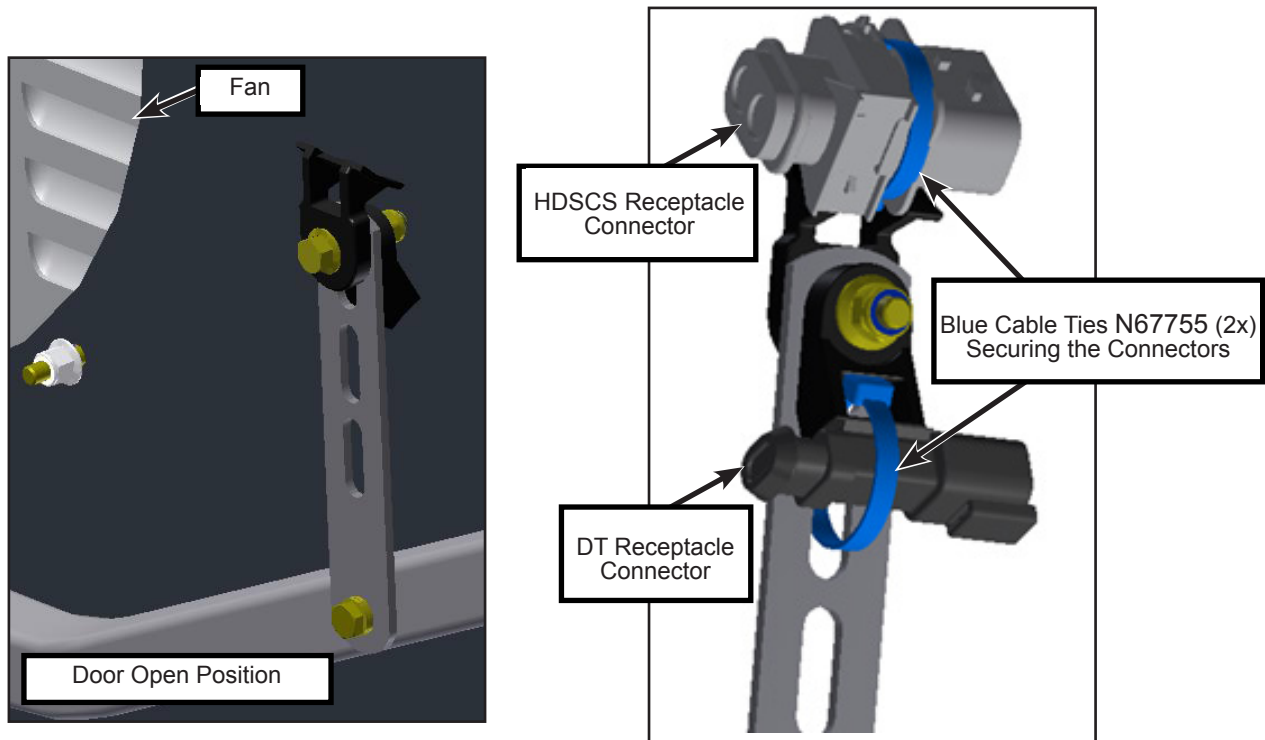

Figure 20 - Securing the HDSCS and DT Receptacle Connectors of the Harness Side
- 1.38. Secure the HDSCS receptacle connector on the harness side with the upper tie-mount (door open) using a blue cable tie PN N67755 (1x) (see figure 20 and 21) and then connect it to the HDSCS plug connector on the fan side. While mating both connectors, press the yellow slide lock of the plug connector to latch and lock both connectors together.
- 1.39. Secure the DT receptacle connector with the lower tie-mount (door open) using a blue cable tie PN N67755 (1x) (see figure 20 and 21) and then connect it to the DT lug connector on the fan side.